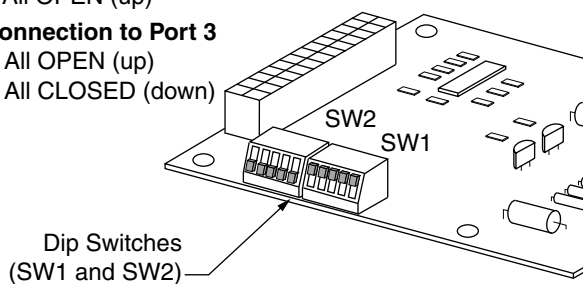

Figure 5.
Figure 5 describes the configuration procedure.
5. Configure the accessory dip switches for Communication Port 3 as shown in Figure 5.
5. Configure the accessory dip switches for Port 3 communication as shown in Figure 5.
9. Configure the accessory dip switches for Port 2 configuration as shown in Figure 5.